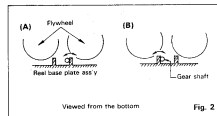

Fig. 2
First identify the gear causing the abnormal sound. Then, adjust projection of the reel base plate ass'y by bending it in an appropriate direction as shown in Fig. 2: (A) when the FF gear causes abnormal sound; (B) when the REW gear causes abnormal sound.